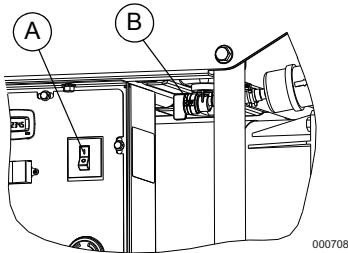
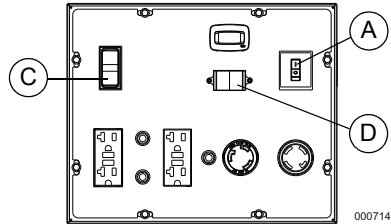

Figure 3-2. Main Breaker Switch and Fuel On/Off Valve
Figure 3-4. Engine Run/Stop Switch
3. Turn main breaker switch Off (A). See Figure 3-2.
4. Turn fuel valve On (B). See Figure 3-2.
6. See Figure 3-4. Press control panel engine Run/Stop switch to Run (C).
1. Allow engine to run for at least 10 seconds, then turn main breaker On (A). See Figure 3-2 or Figure 3-4.
2. Select voltage rating with voltage selector (D). See Figure 3-4.
1. Turn main breaker switch to Off (A). See Figure 3-2 or Figure 3-4.
4. Turn fuel valve On (A). See Figure 3-2.
7. Press and hold the Engine Start switch (C) until engine starts. See Figure 3-4. Release Engine Start switch if engine does not start within 5 seconds. If engine does not start within 5 seconds, review start-up procedure again before attempting start. If problems persist, refer to **"Troubleshooting."**
9. Select voltage rating with Voltage Selector (D).